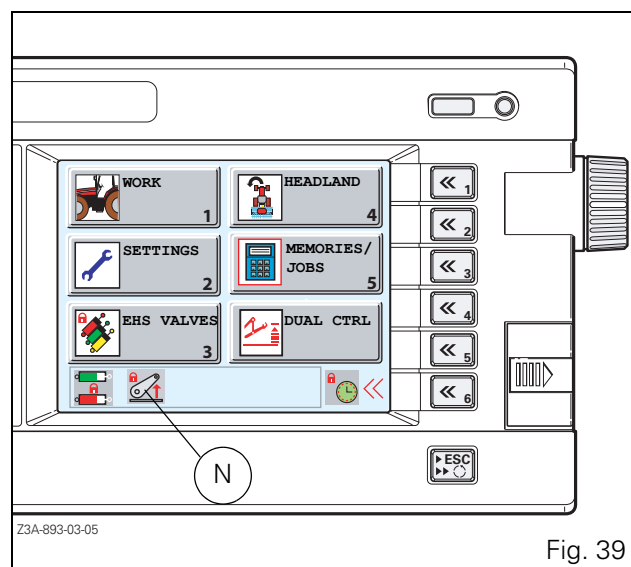

Fig. 39
N. Linkage console locking indicator light (Fig. 39)